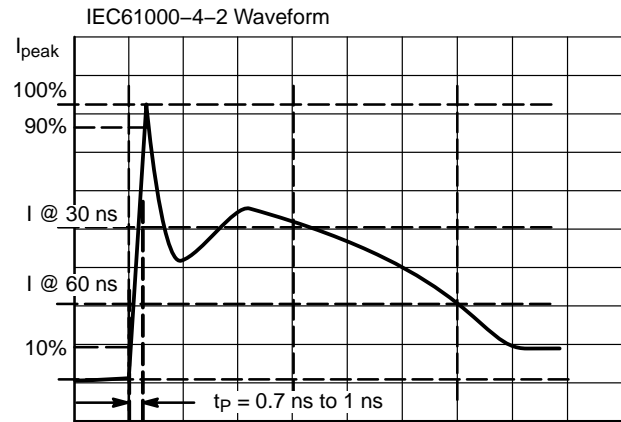

Figure 9. IEC61000-4-2 Spec
- For test procedure see Figures 9 and 10 and application note AND8307/D.